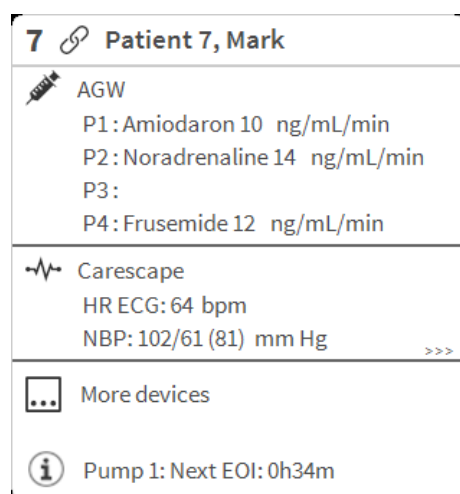

Fig 65
- Click the “Bed area” referring to the bed to be displayed (Fig 65)